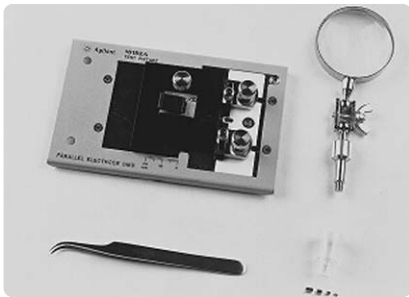

Figure 15. 16191A/16192A
- Accommodated SMD size: See Figure 15.